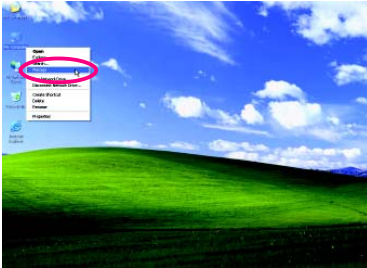
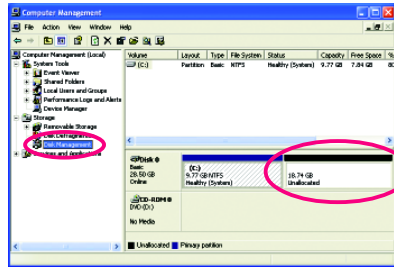

Figure 4
Figure 5
4. After the operating system is installed, right-click the **My Computer** icon on your desktop and select **Manage** (Figure 4). Go to **Computer Management** to check disk allocation. Xpress Recovery2 will save the backup file to the unallocated space (black stripe along the top)(Figure 5). Please note that if there is not enough unallocated space, Xpress Recovery2 cannot save the backup file.